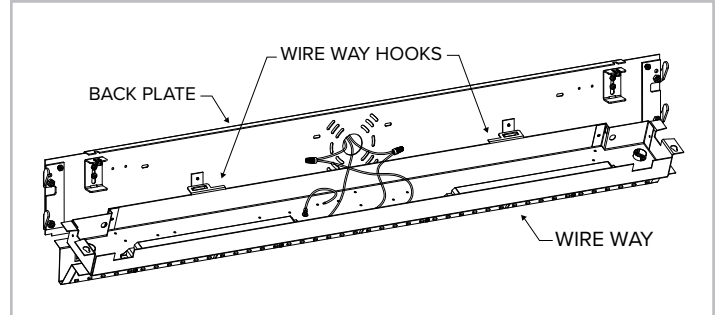

Figure 3: Back Plate
1. Hang the Wire Way on the Back Plate as shown in **Figure 3**.
2. There can be up to (4) different groups of wires depending on what options were ordered for the Evexia fixture. These different groups will be labeled as identified below. Using a wire nut or other approved connector, make the various electrical connections as identified below.